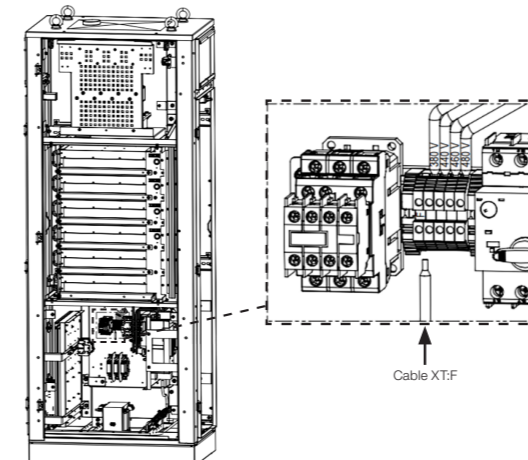

Figure 5.3: Setting the supply voltage
2. Locate the XT terminal set at the bottom of the station (Figure 5.3).